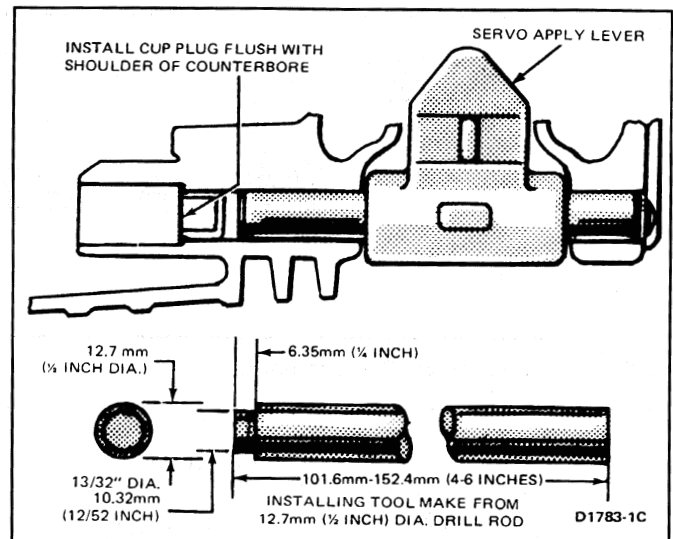

FIG. 34 Servo Apply Lever Installation
- Working from inside of the transmission case, carefully drive on the servo apply lever shaft to remove the cup plug. The shaft (Fig. 34) can be withdrawn from the case by hand.
- Using the fabricated tool shown in Fig. 34, drive the cup plug into position in the case. Be sure the plug is flush with the shoulder of the counterbore. The cup plug may be coated with Threadlock and Sealer, EOAZ-19554-A (ESE-M2G204-A) or equivalent, before installation.